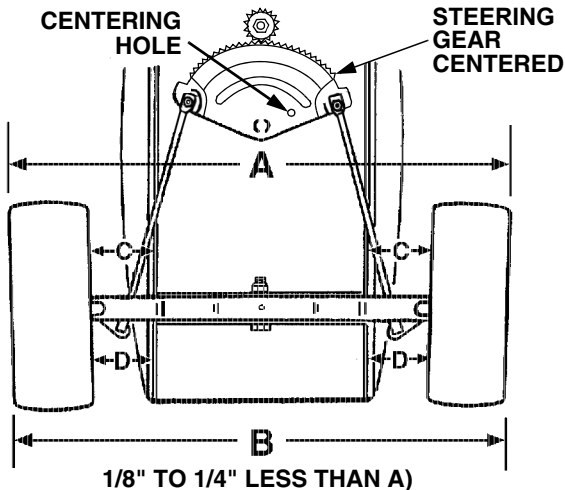

Figure 14
The front wheels should toe-in approximately 1/8 to 1/4 inch, as measured across dimensions A and B shown in Figure 14.
1. Check the steering gear to ensure it is in the centered position. The hole in the steering segment gear will align with the hole in the steering housing (See Figure 14). **NOTE:** A 5/16" pin can be used in the alignment holes to assure the steering segment is centered.
3. Measure the distance between the bottom edges of the tractor frame channels and the marks on the front of each wheel (See measurement D in Figure 14). These two measurements should be equal.
- Measure the distance between the frame and the marks on the rear of each front wheel (See measurement C in Figure 14). Measurement D should be approximately 1/16 to 1/8 inch less than measurement C on each side of the tractor.